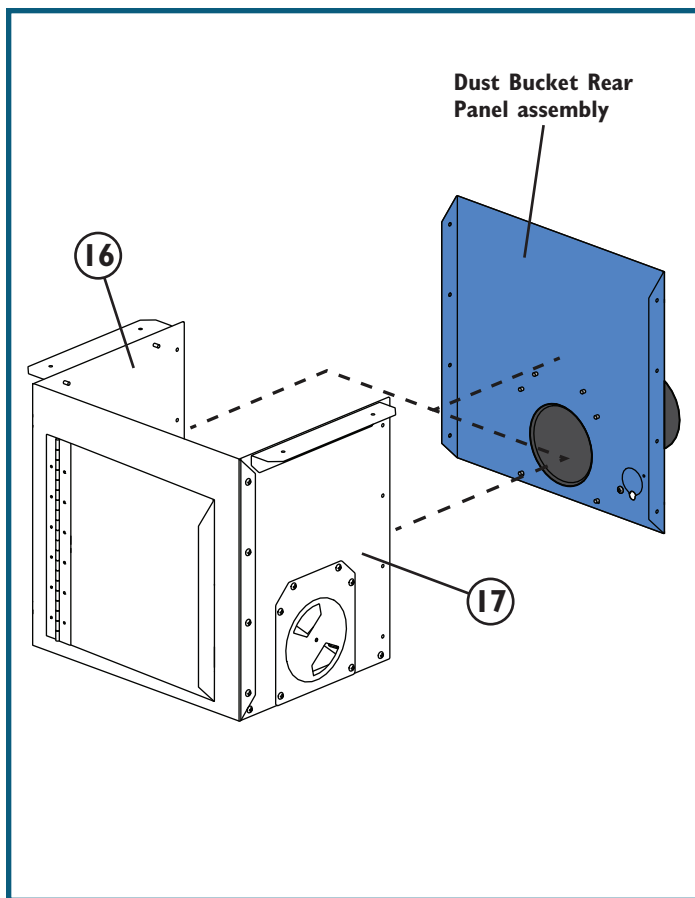

Fig. 14
- Position the Dust Bucket Rear Panel assembly against the rear edges of the Dust Bucket Left and Right Side Panels (16 and 17), making sure that the flanges of the Rear Panel (26) overlap the Side Panels. **Fig. 14.**